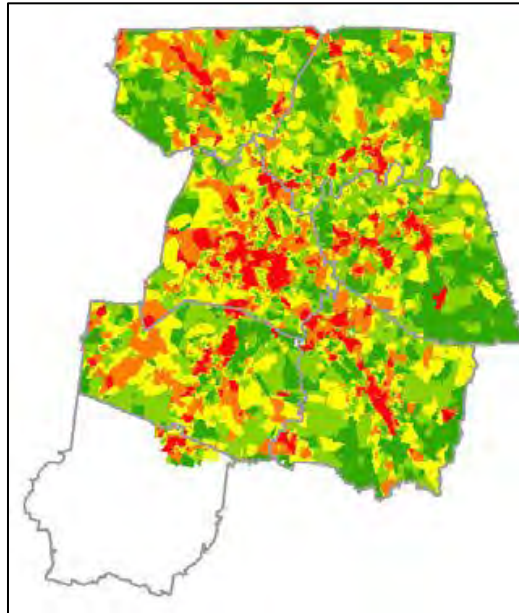

Figure 19. Percentage of Trips Made as NHB
4. Percentage of Trips made as “Non-Home-Based/Other” (Figure 19): The percentage of trips that end in a census block made for a “non-home-based/other” purpose (e.g. work to school, gas station to movie theatre, etc.) as predicted for the base year (2008) by the MPO’s regional travel demand model.